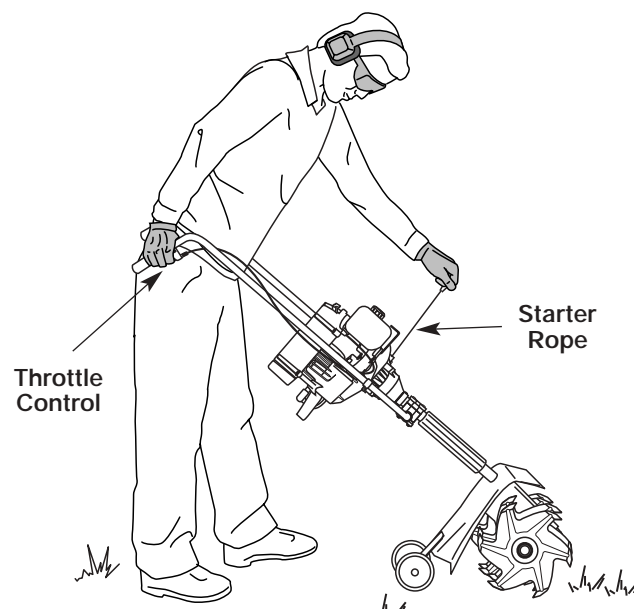

Figure 19
WARNING: Avoid accidental starting. Be in the starting position when pulling the starter rope. See Figure 19. The operator and unit must be in a stable position while starting to avoid serious personal injury.
7. Pull starter rope briskly 1 to 3 times to start the engine. See Figure 19.
1. Release your hand from the throttle control. See Figure 19. Allow the engine to cool down by idling.